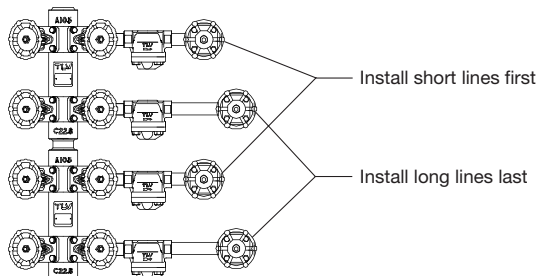

Figure 2
**Note for Screwed Connections:** There may be clearance problems when installing traps and valves with threaded connections. To prevent any obstructions, such as valve handles contacting products installed on lines above or below, offset each line slightly. Install all short lines first, then longer lines (figure 2). Offsetting lines is not necessary when installing products with socket welded connections.